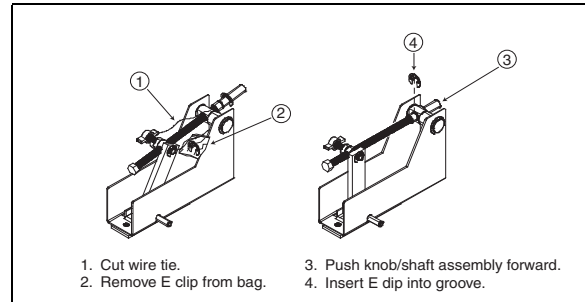

Fig. 2 Constant volume valves.
9. E clip supplied for CxV adjustment mechanism. Must be inserted by installer (see Figure 2 on the next page).